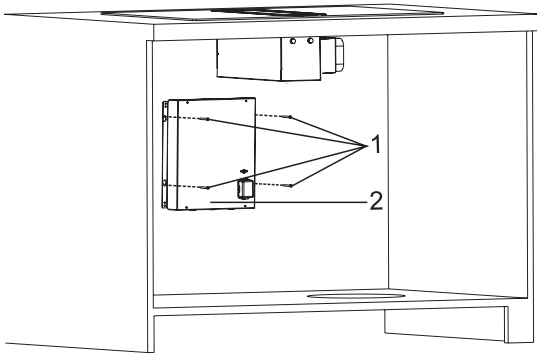

Fig. 39
3. Control box (Fig. 39/2) Perform the installation of the control box into the kitchen counter using the assembly screws (Fig. 39/1).